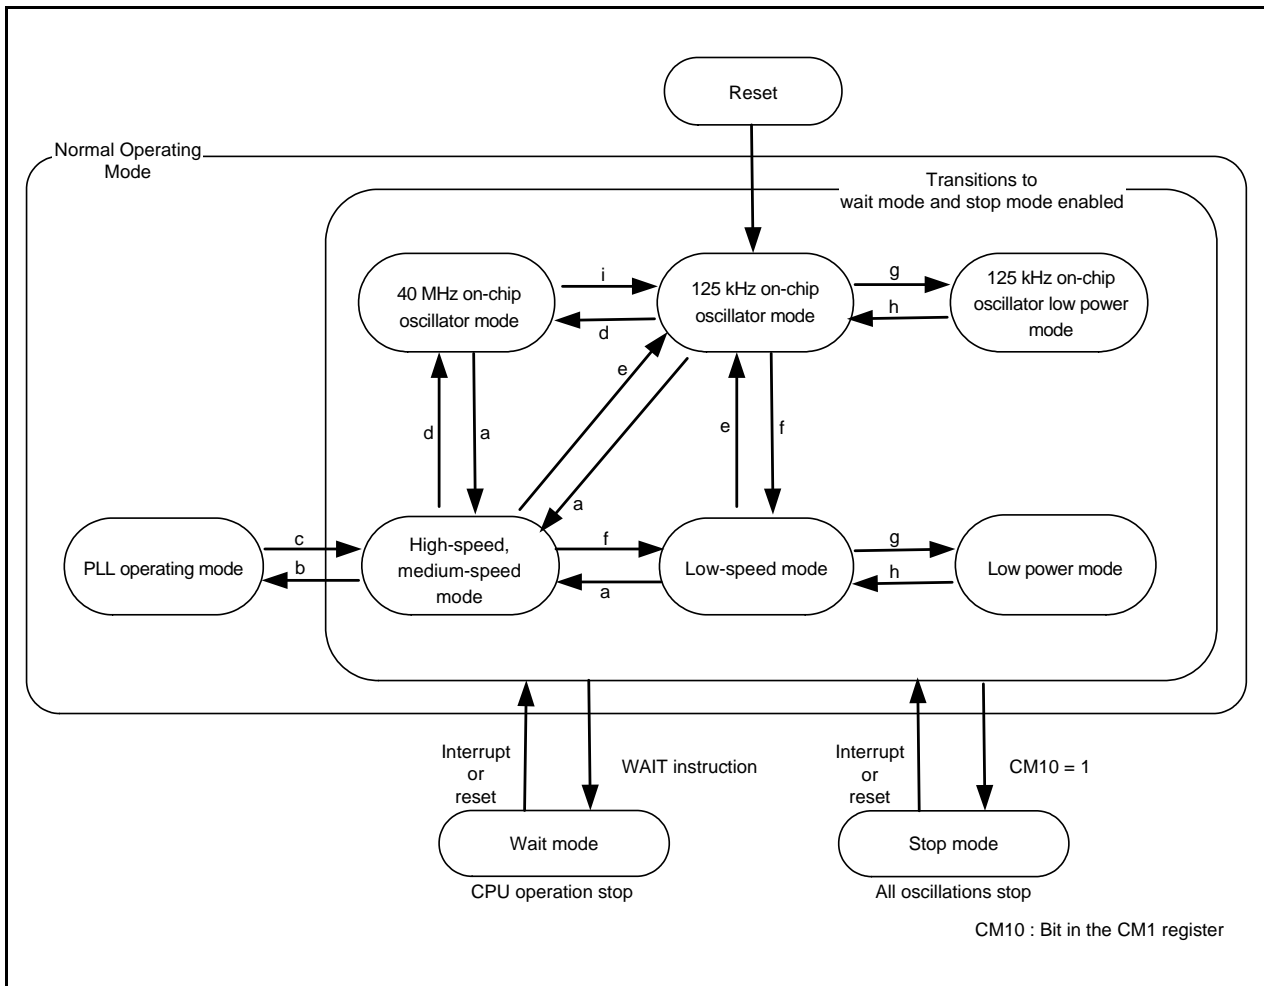

Figure 9.1 Clock Mode Transition
PLL operating mode can be entered and exited from high-speed mode or medium-speed mode. To enter other modes including wait mode and stop mode, enter high-speed mode or medium-speed mode first, and then enter the intended mode (refer to Figure 9.1 "Clock Mode Transition").
Figure 9.1 shows Clock Mode Transition. Arrows indicate that mode transitions are enabled between modes.
- Execute mode transition according to the following procedures. To access registers and bits, see 9.2 “Registers”. Letters a to h correspond to those in Figure 9.1 “Clock Mode Transition”.
- (1) Oscillate the main clock and wait until the oscillation stabilizes. See 8.3.1 “Main Clock”.
- (2) Set the CM06 bit to 1 (divide-by-8 mode).
- (3) Set the CM11 bit to 0, the CM21 bit to 0, and the CM07 bit to 0 (main clock selected as CPU clock source).